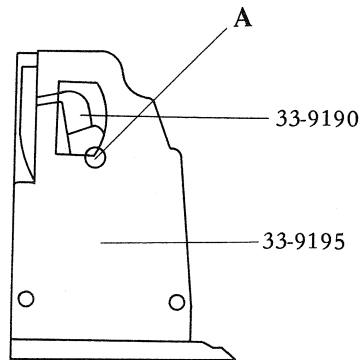

Fig. 13
1. Set the Feed Claw (33-9190) to the Claw Cover (33-9195) as shown in Fig. 13.